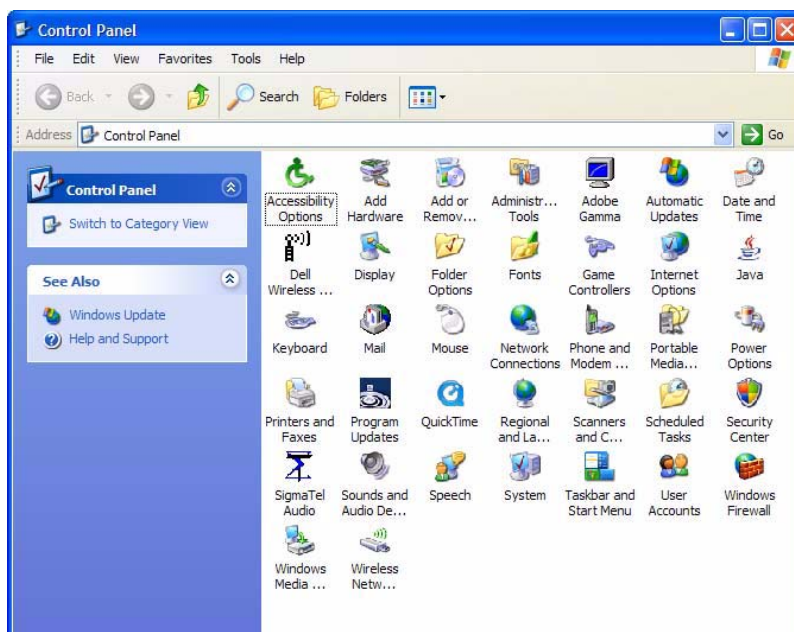

Figure 7-6 Control Panel
1. From the **Start** menu, point to **Settings** and then click **Control Panel**. (Figure 7-6).